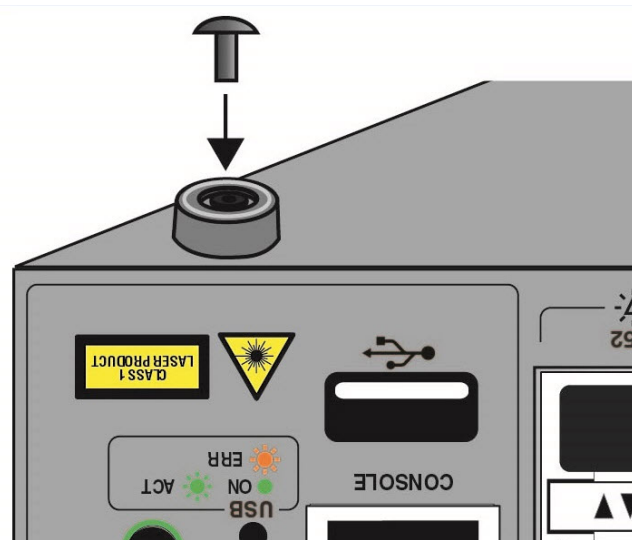

Figure 82. Inserting the Rivet into the Bumper Foot
- Insert the rivet to secure the bumper foot to the base. Refer to Figure 82.